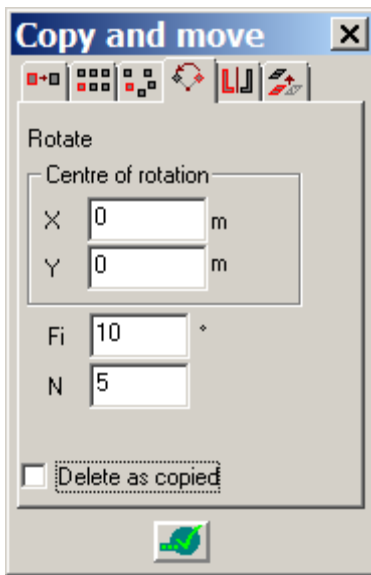

Figure 1.25.5 **Copy and move** dialog box (**Rotate** tab)
- select the **Rotate** tab (see Fig.1.25.5);